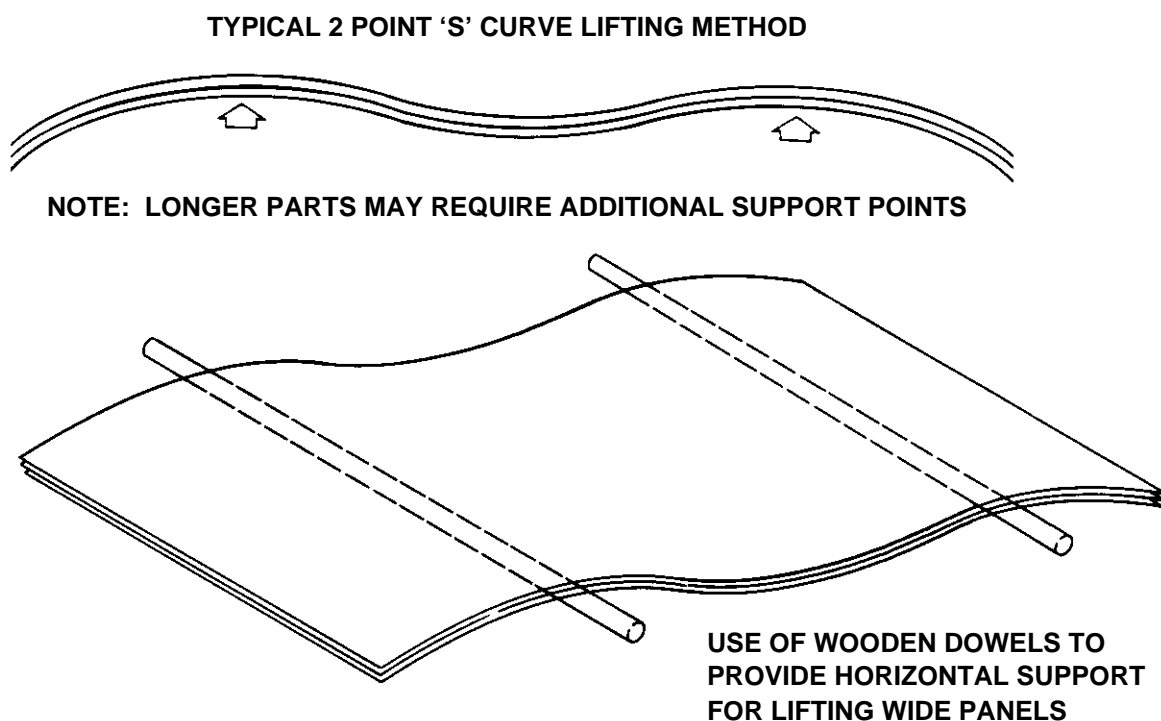

FIGURE 1 - TYPICAL HANDLING OF THIN GAUGE MATERIAL
- 5.2.2 Lift long, thin gauge (0.032 inch or less) parts and material flat in the “S” curve manner (see Figure 1) and with sufficient horizontal support to prevent buckling in the center of the panel. Use wooden dowels to provide horizontal support when lifting wide, thin gauge panels.